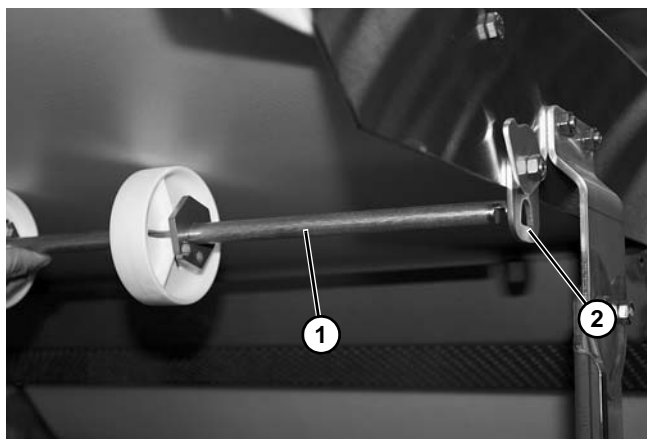

Figure 85
2. Remove belt return assembly (Figure 85, item 1) from return brackets (Figure 85, item 2).